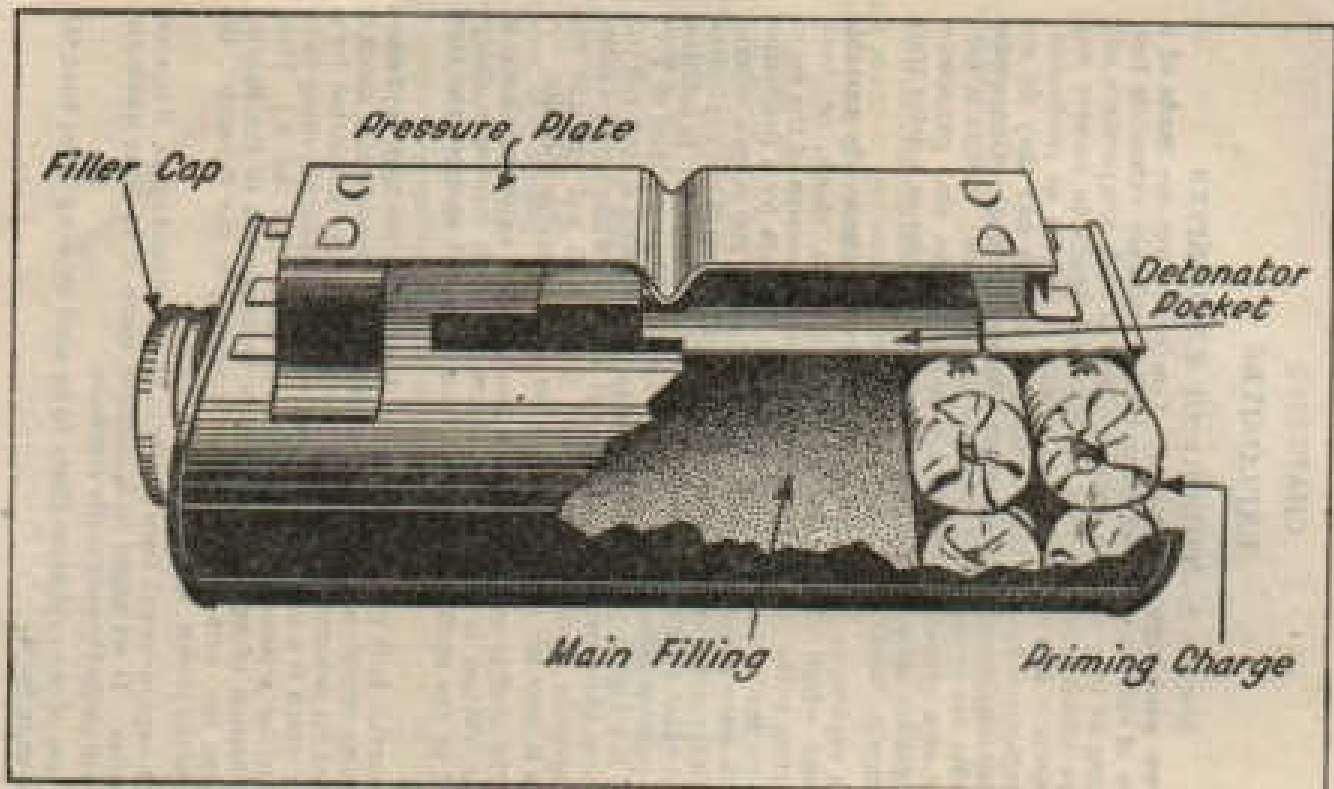

Fig 1. 75 grenade Mark 1, sectional view
1. No. 75 Grenade (See Fig 1)
(a) *Description.*—This is a screw cap metal container filled with 14 lb of HE with a special primer inside the container at the opposite end to the screw cap (see Fig 1). On top of the container is a pressure plate with special pockets underneath for the detonator and igniter sets used when the grenade is employed as an anti-tank mine (see Military Training Pamphlet 45, Part 1). Twelve grenades are packed in a tin box with 24 detonator and igniter assemblies.